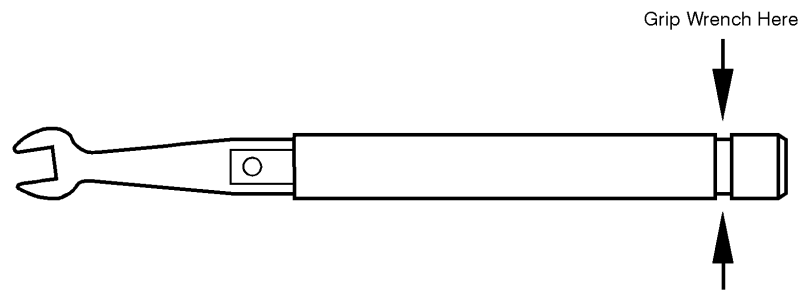

Figure 3-10 *Where to Hold the Torque Wrench*
Using the torque wrench guarantees that a connection is not too tight. This will help prevent possible connector damage. It also guarantees that all connections are equally tight each time. Figure 3-10 on page 3-15 shows you where to hold the torque wrench for optimum performance.
3. Hold the torque wrench lightly at the end of the handle *only* (beyond the groove). See Figure 3-10.